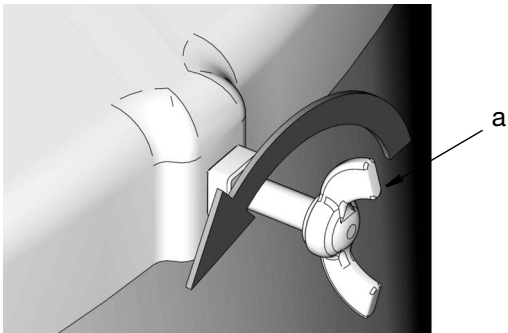

FIG. 5
- 2. Remove drum cover by loosening thumb screws (a) (FIG. 5).